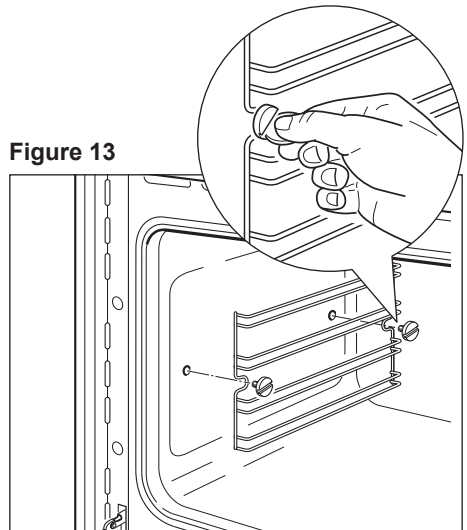

Figure 13
- Assemble the wire racks on the oven walls using the 2 screws (fig. 13).
- Unscrew the fixing screws and slide off the wire racks to the oven wall as in fig. 13.